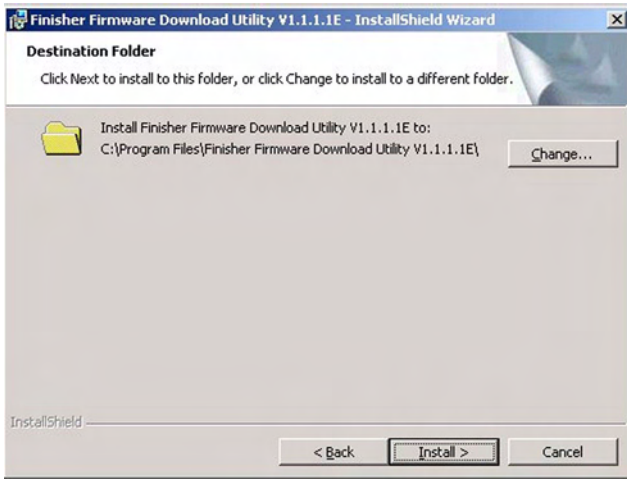

Figure 2 Tool Location
- e. Verify the folder location automatically picked by the tool and select Install (Figure 2).